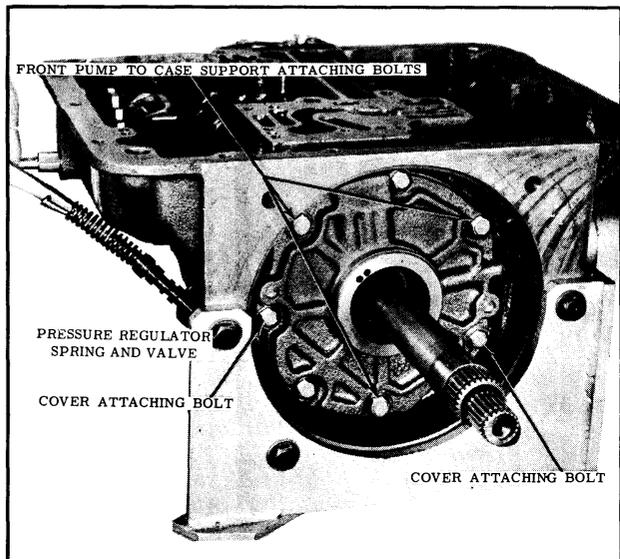

Fig. 3-30 Spring & Valve Removal
- 14. Remove the pressure regulator spring and valve. (See Fig. 3-30)
- 15. To remove the front pump, remove the 2 cover attaching bolts adjacent to the dowels and install slide hammer Tools J-6125, then remove the 3 large front pump attaching bolts. (See Figs. 3-30 and 3-31)